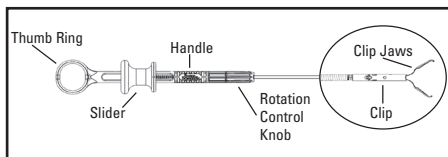

Figure 2. Open the Resolution 360 Clip Jaws
1. When the Resolution 360 Clip is at the desired location, gently move the slider distally (away from the thumb ring) to open the Resolution 360 Clip jaws, as shown in Figure 2.